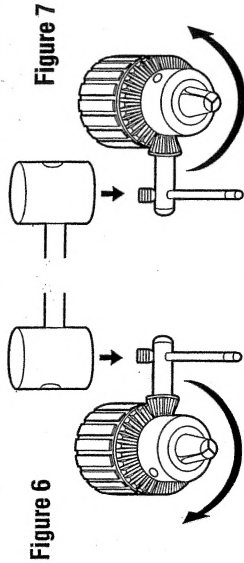

Figure 6
2. Place chuck key in chuck as shown in Figure 6.
3. Using a wooden mallet or similar object, strike key sharply in a clockwise direction. This will loosen screw inside chuck (Figure 6).